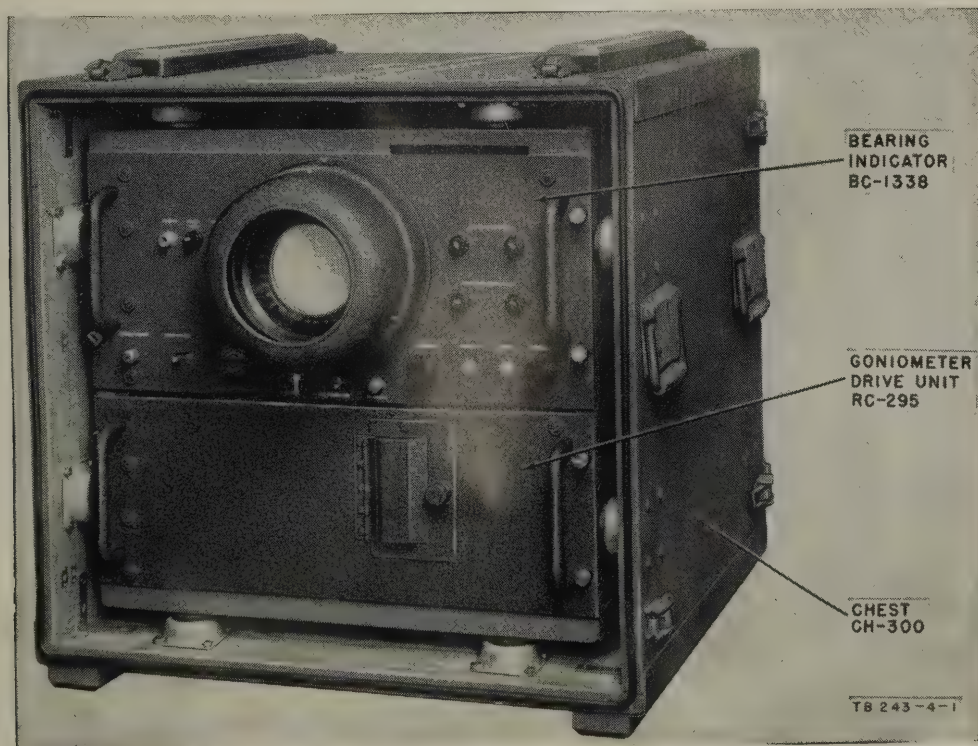

Figure 186. Bearing Indicator BC-1338 and Goniometer Drive Unit RC-295 in Chest CH-300.
Bearing Indicator Kit MC-551 is used to replace Bearing Indicator BC-1159-A in Radio Set CR-291-A, as authorized by MWO SIG 11-43-4. The kit consists of 15-tube electronic Bearing Indicator BC-1338, Goniometer Drive Unit RC-295, and accessories. The major components of the kit are mounted in operating Chest CH-300 (figs. 186 through 188).
d. Place Chest CH-300 (containing Bearing Indicator BC-1338 and Goniometer Drive Unit RC-295) on the operating table in the position formerly occupied by Bearing Indicator BC-1159-A and remove the front and rear covers (figs. 186 and 187).